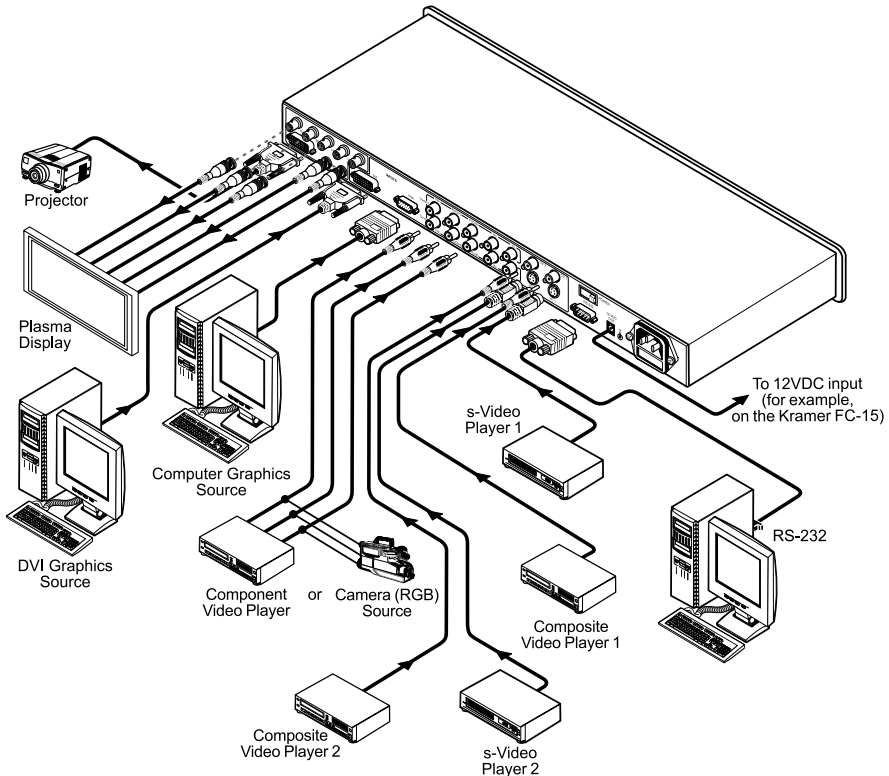

Figure 2: Connecting the VP-740HC ScaleMagix 2™ Rear Panel
To connect the **VP-740HC ScaleMagix 2™**, as the example in Figure 2 illustrates, do the following¹:
8. Connect the power cord⁴ (not illustrated in Figure 2).